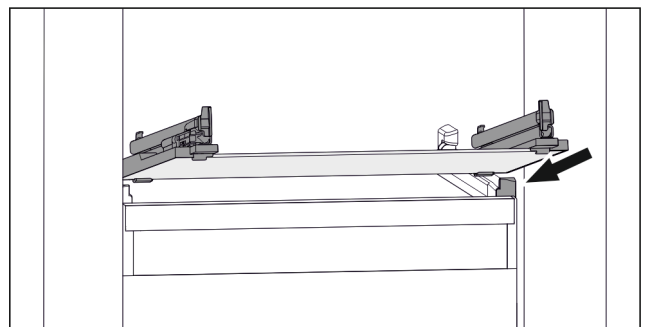

Fig. 103 Example illustration of glass shelf
- ▶ Position glass shelf at an angle behind the stoppers. (see Fig. 103)